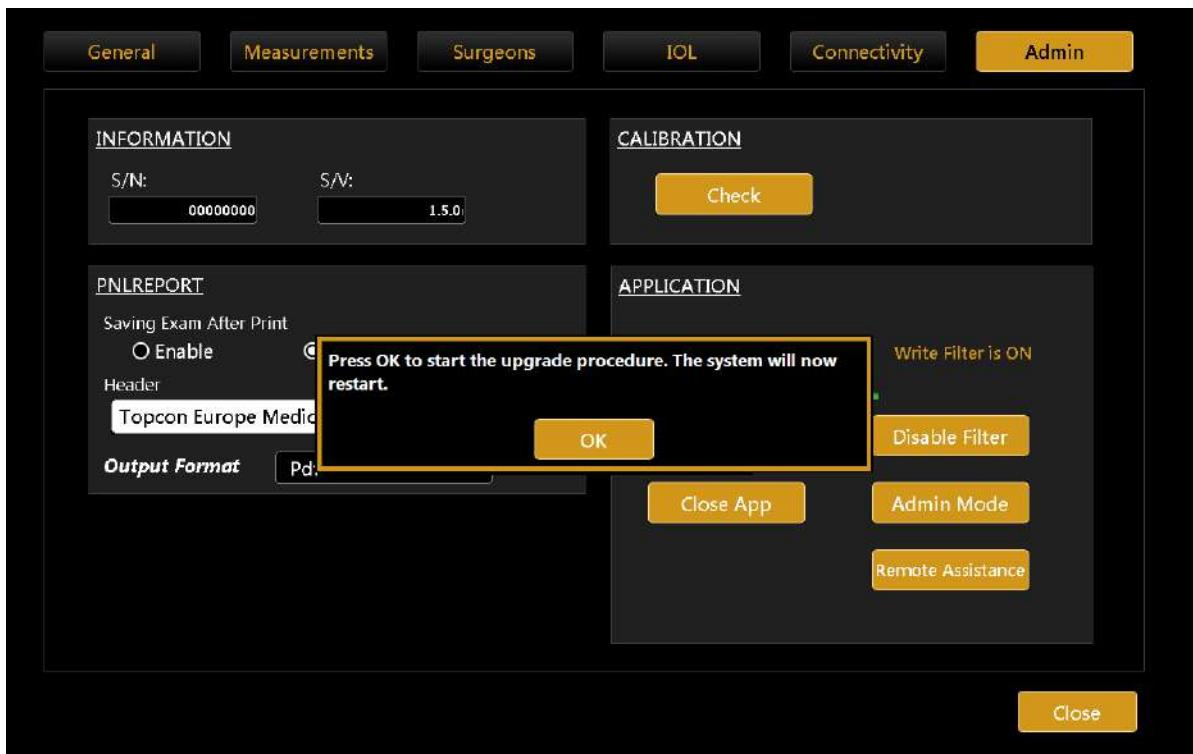

Figure 98
8. Click on "Ok" to reboot the system and start the upgrade (Figure 98).